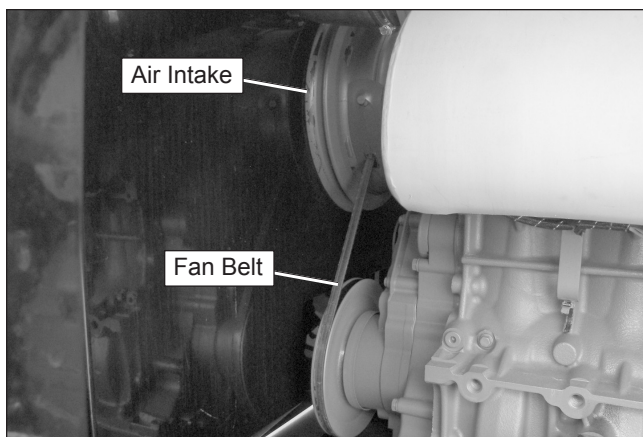

Figure 7.3 – Air Intake
1. Visually inspect the air intake and fan (refer to Figure 7.3) to be sure they are free of obstructions that could stop or slow the flow of air.